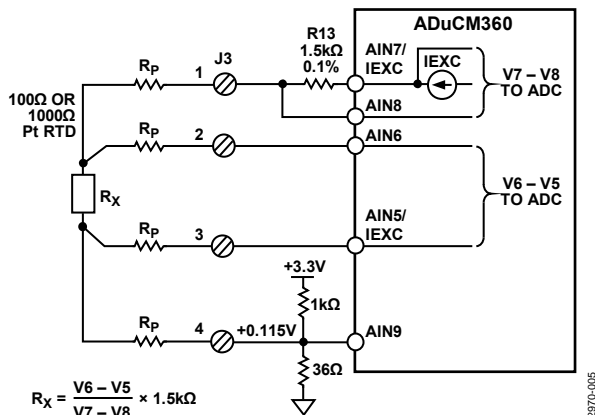

Figure 5. Configuration for 4 Wire RTD Connection
Figure 5 shows the configuration for 4-wire RTDs.
- a. 4-wire RTD (see Figure 5): connect the positive current excitation wire to J3 Pin 1 and the positive voltage sense wire to J3 Pin 2. Connect the negative current excitation wire to J3 Pin 4 and the negative voltage sense wire to J3 Pin 3.